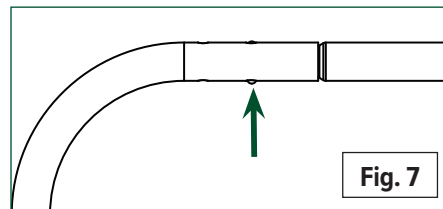

Fig. 7
1. **(Fig. 7)** With the **Chassis** still upside down, attach **Single Pin Hitch** as shown with four 2.5" bolts, washers, and nylon lock nuts provided.
2. **(Fig. 7)** Make sure the snap buttons on the straight section align with the holes on the bent leg. You should hear a “click” sound when the two pieces are connected properly. Repeat with the other bent leg on the other end.